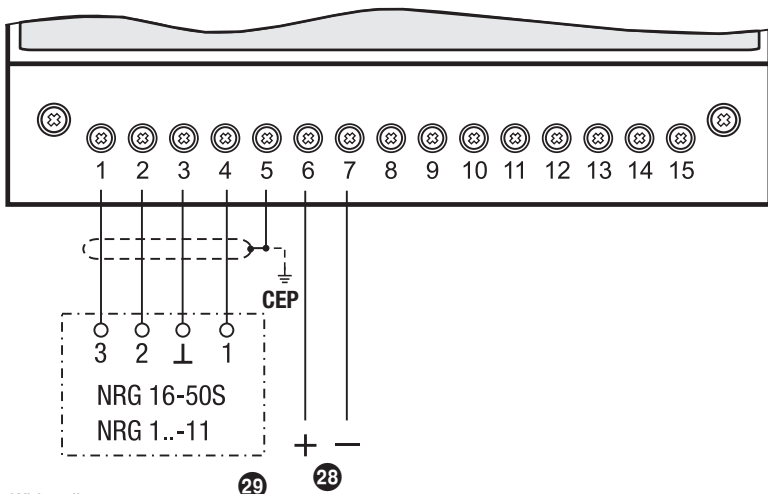

Fig. 8 Wiring diagram for equipment with ONE electrode
Wire terminal strip in accordance with the wiring diagram. **Fig. 8, 9**
6. Run cable through cable gland 27 and upper part of the terminal box 22 and wire terminals of the connecting plate 23 in accordance with wiring diagram. **Fig. 8**